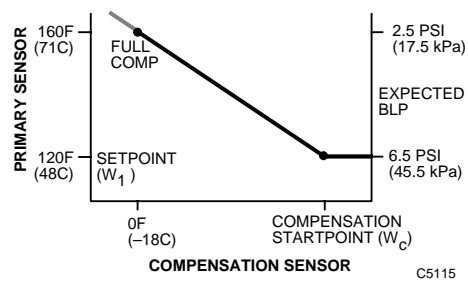

Fig. 14. Calibration example reset schedule.
- See Fig. 14 for the schedule graph.